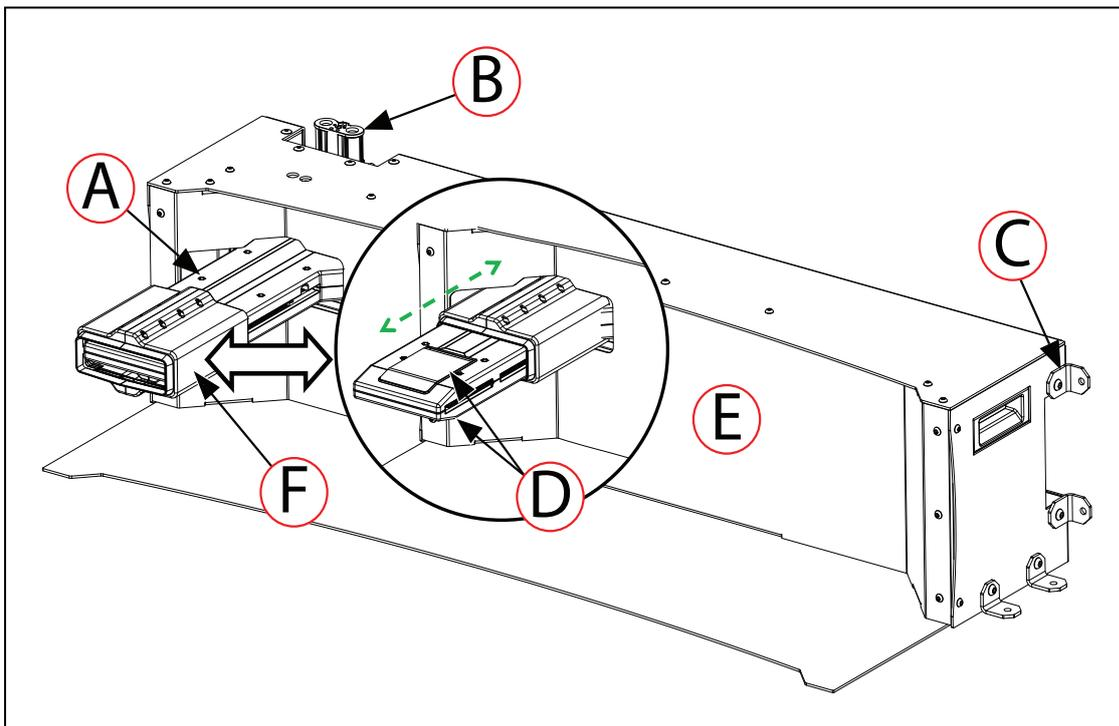

Figure 3-67. Docking Target - Features and Parts
- The docking target's power connector ((B) in Figure 3-67. can install either horizontally, or vertically. There is a groove on the back of the docking target that allows you to reach the power connector, and connect the power cord sideways from either side of the docking target. See: Figure 3-76.